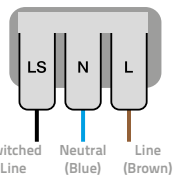

Fig 4
- For switched maintained operation please wire up the fitting as shown in fig 4.
- For switchable maintained operation see fig 4.